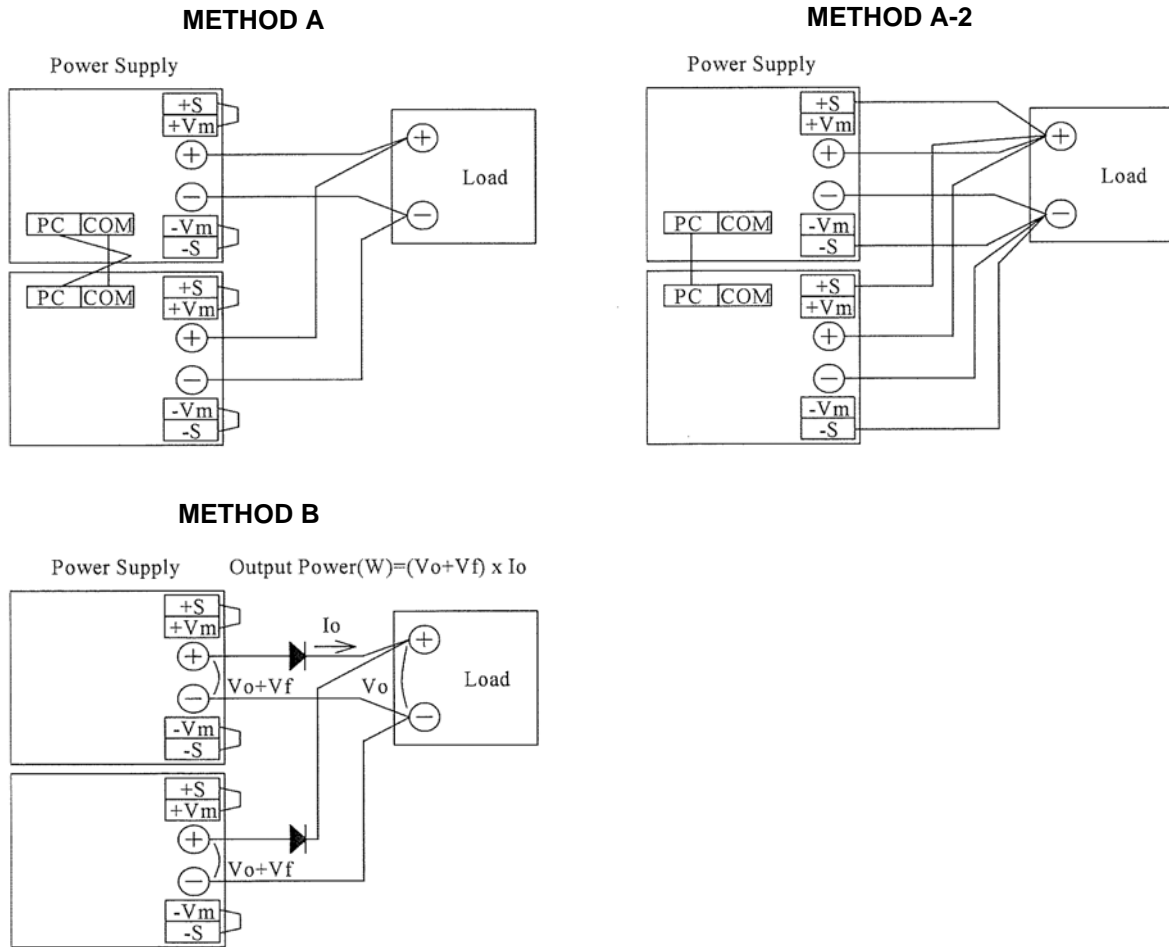

FIGURE 12. PARALLEL CONFIGURATIONS
Current balancing is functional. Operation modes (Methods A, A-2 and B) shown in Figure 12 are possible.
There is a possibility that the output could be unstable due to external noise. For this case, disconnect the COM terminal and connect -S terminal from parallel power supply to a single point on the load. Please refer connection Method (A)-2 shown in Figure 12.
(B) To Use as a Backup Power Supply (see Figure 12, Method B)